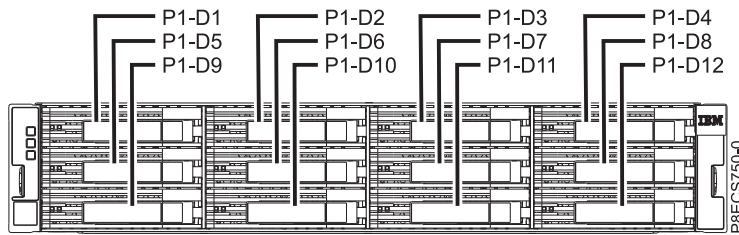
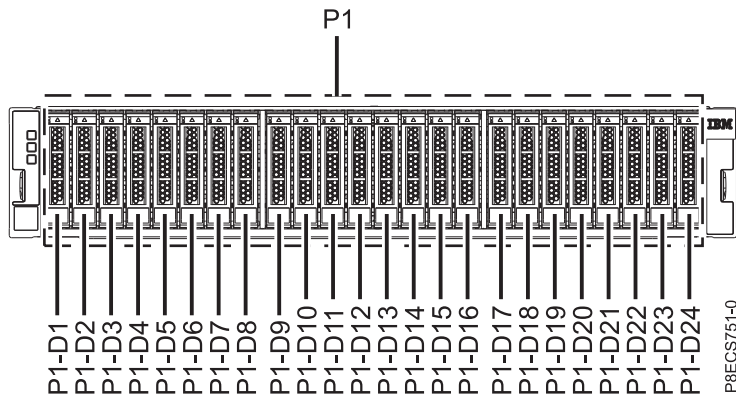
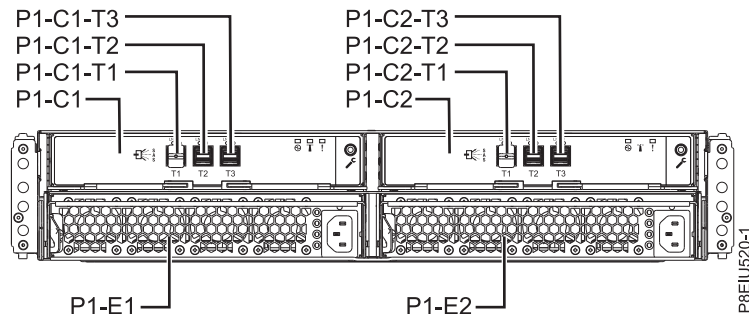
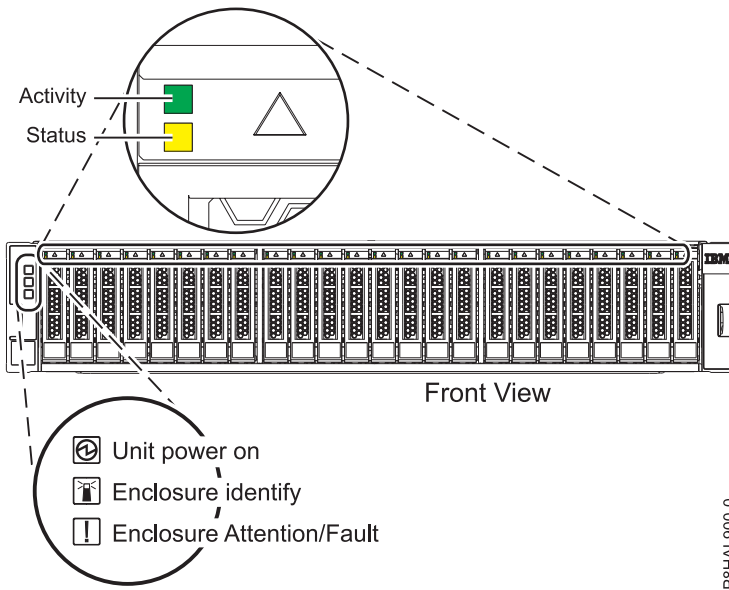

Figure 50. Front view of the ESLL storage enclosure showing the disk drive locations
Figure 51. Front view of the 5147-024 or ESLS storage enclosure showing the drive locations
Figure 52. Rear view of the storage enclosures
Figure 53. Front view of the storage enclosure showing the service indicators
1. Identify the part and the enclosure that you want to service. The disk drive and SSD slots are located in the front of the enclosure. Figure 50 shows the front of the ESLL storage enclosure, Figure 51 shows the front of the ESLS storage enclosure, Figure 52 shows the rear view of the storage enclosures, and Figure 53 on page 48 shows the locations of the service indicators for the enclosures.